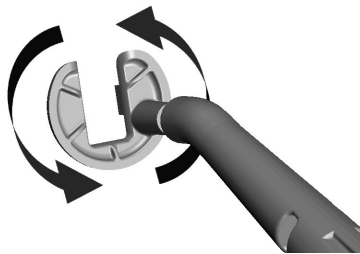

Figure 19. Rotational Direction for the Horseshoe End
4. Rotate the horseshoe end of the Placement/Removal Tool so that the tool is oriented as desired (Figure 19).